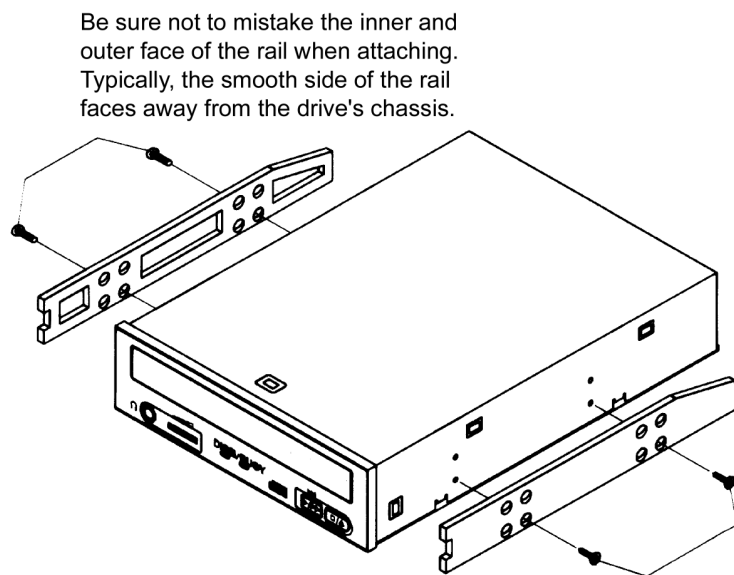

Figure 10: Installing Mounting Rails (if Needed)
5. If you must use mounting rails, fasten the rails to the lower pair of holes as shown in Figure 10. (In some instances, you may need to fasten the rails to the upper set of holes.) After fastening the rails, check their positioning by sliding the drive into the bay before you mount the drive or connect any cables.